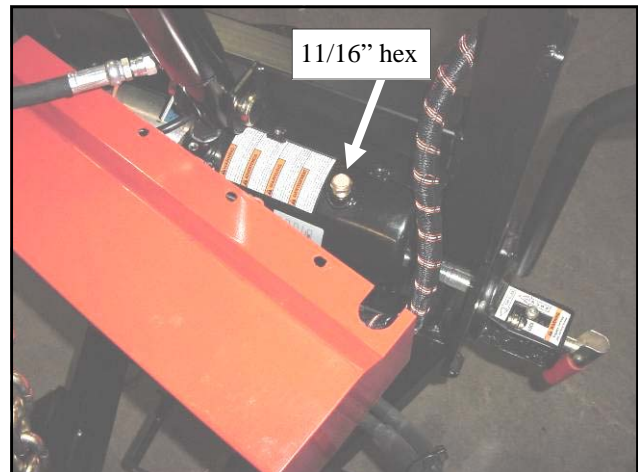

Fig. 12.1 (view of driver's side)
12.1 Move or rotate the driver's side of the loose pump cover to access the fill plug for the hydraulic fluid. See figure 12.1 for the location of the fill plug.